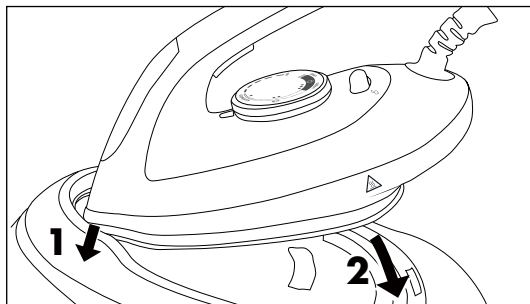

Fig. 8
- 5) After ironing, place the iron on the stand **6** of the base station. First guide the tip of the iron under the edge at the front of the stand **6** and then place the iron completely onto the stand **6** (see fig. 8).